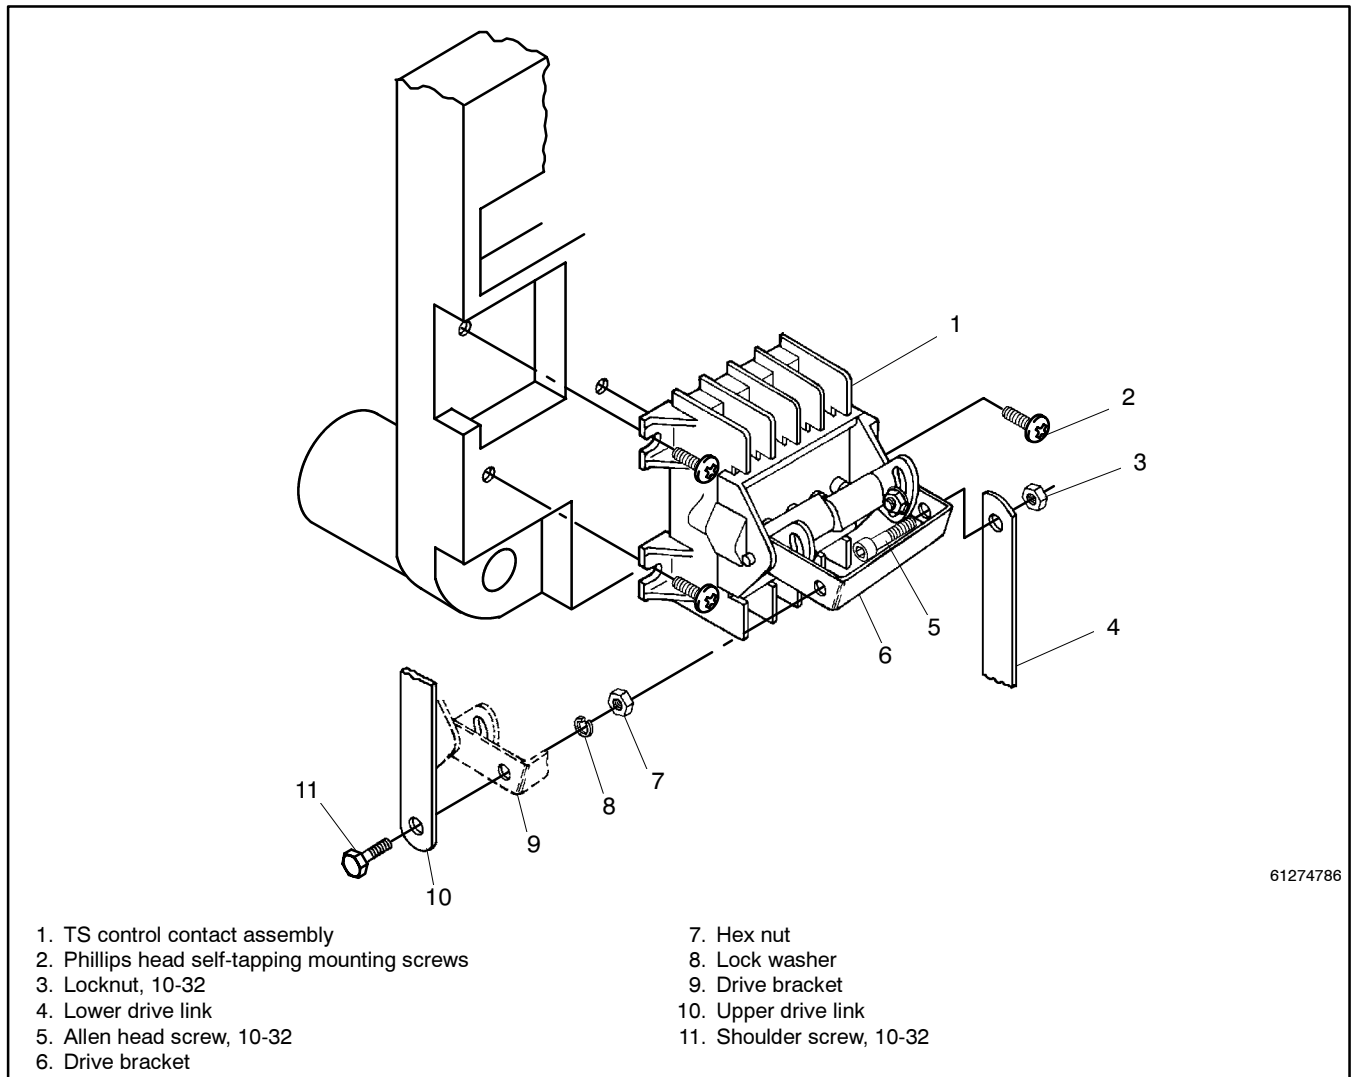

Figure 6-14 Figure 6. TS Control Contact Assembly Replacement
2. Refer to Figure 6-14. Disconnect the upper drive link by removing the #10-32 shoulder screw, lock washer, and hex nut from the left side of the drive bracket on the control contact assembly. Then reinstall the hardware onto the loose linkage for safekeeping.